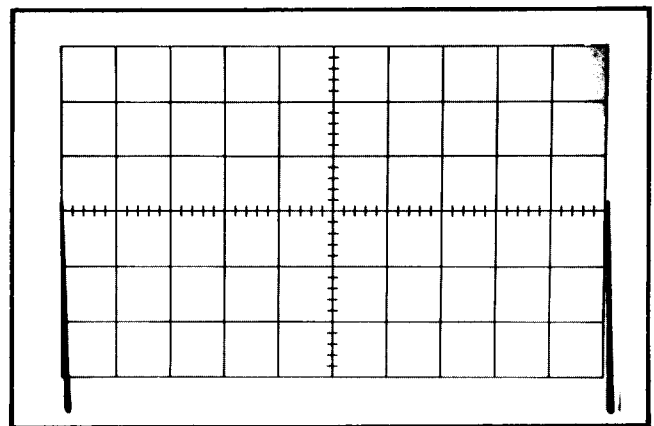

Fig. 6-54. Typical CRT display when checking delayed-sweep accuracy.
- c. CHECK—Using the A TIME/DIV switch, B TIME/DIV switch and time-mark generator settings given in Table 6-8, check delayed sweep accuracy within the given tolerance. First set the DELAY-TIME MULTIPLIER dial to 1.00 and rotate the dial until the sweep starts at the top of the second marker (see Fig. 6-54). Note the dial reading and then set the dial to 9.00 and rotate until the sweep starts at the top of the tenth marker. DELAY-TIME MULTIPLIER dial setting must be 8.00 divisions higher, + or - the allowable error given in Table 6-8.